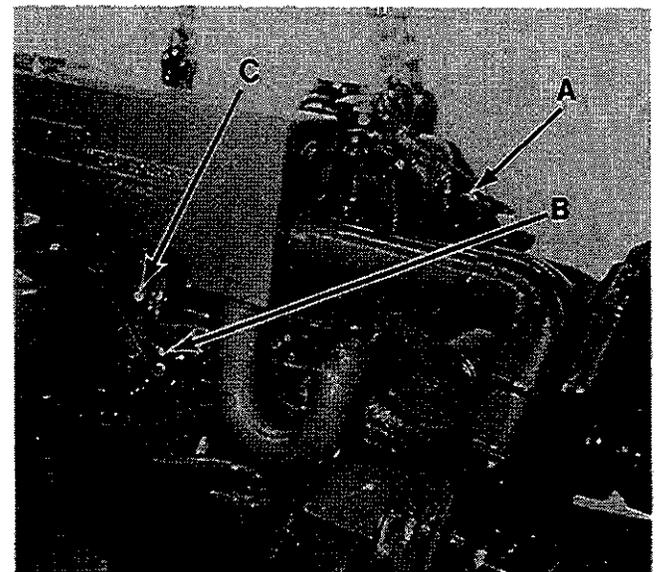

Figure 3
- W40 & WPO 10, 12½, 15. (Figure 3)